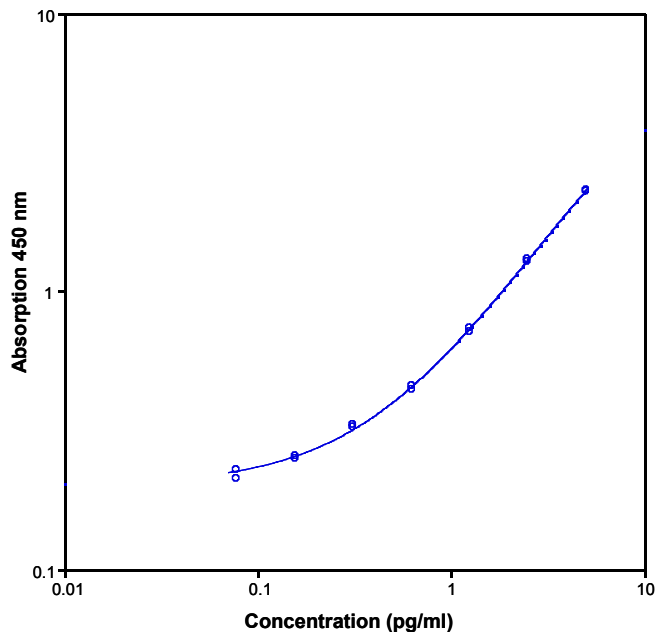

Fig. 10 Representative standard curve for human IL-6 ELISA. Human IL-6 was diluted in serial 2-fold steps in Sample Diluent.
- A representative standard curve is shown in Figure 10.